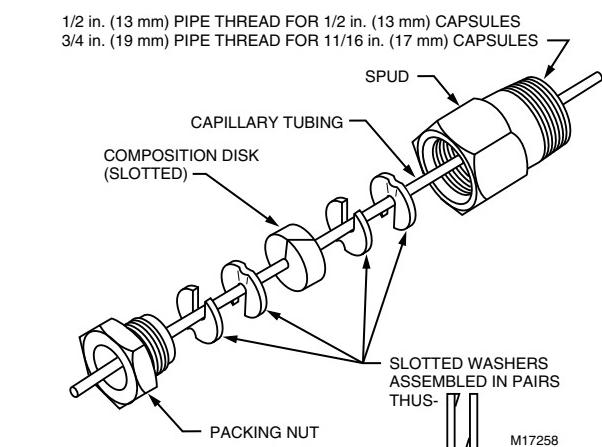

Fig. 8. Capillary compression fitting assembly.
- Place the composition disk and the four slotted brass washers on the tubing in the order shown in Fig. 8.